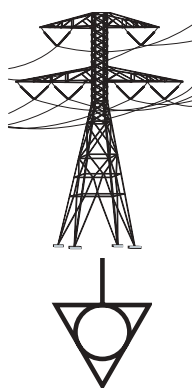

fig. 1
On the back of the machine there is also a terminal marked by a symbol (see fig.1) used for the equipotential connection between different appliances. The special dataplate gives the max. power value in watts (W) and amperes (A), for dimensioning of the line, cable and switches.